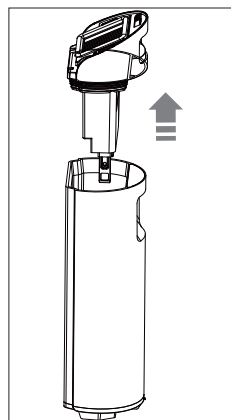

Fig. 10 – Removing the cap
- ▶ Pull the cap of the dirty water tank upwards and remove (**see Fig. 10**).